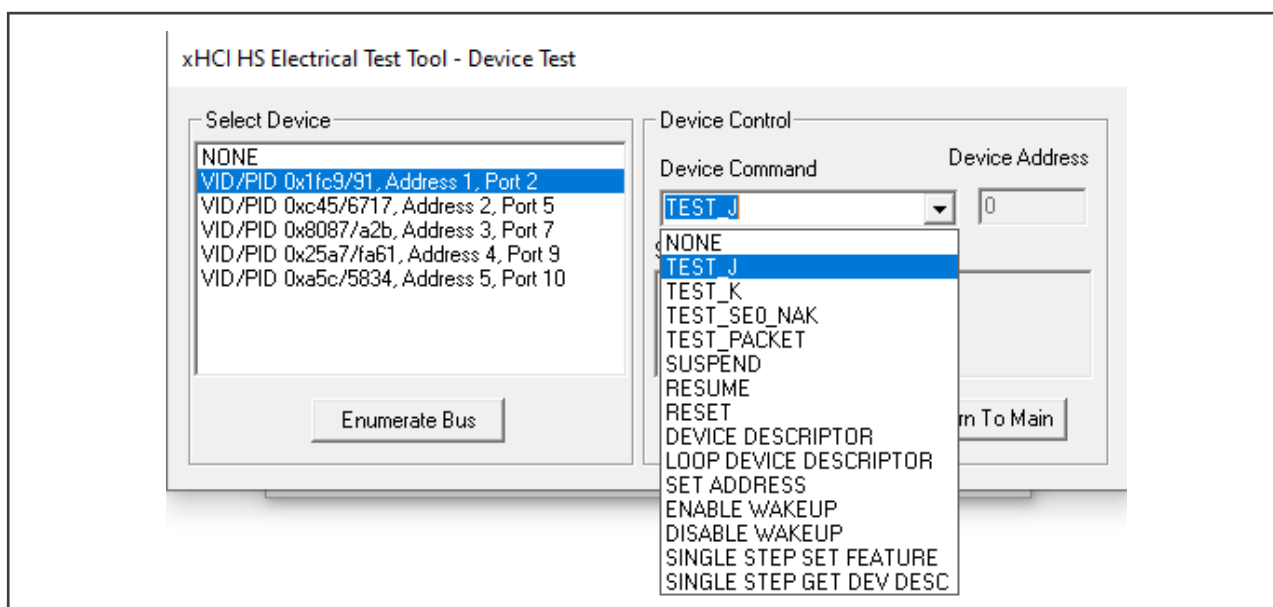

Figure 30. HSETT TEST_J, TEST_K and Test_SEQ_NAK command
- Select **TEST_J** from the **Device Command** drop-down menu, as shown in Figure 30. To place the device into `TEST_J` test mode, click **EXECUTE** once.